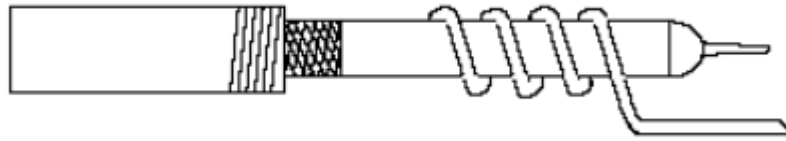

Figure 5. Recommended probe configuration.
- Use a balanced impedance probe tip across C_{OUT} to measure V_{OUT} Ripple to avoid noise coupling into the probe ground lead. The recommended probe configuration is shown in Figure 5.